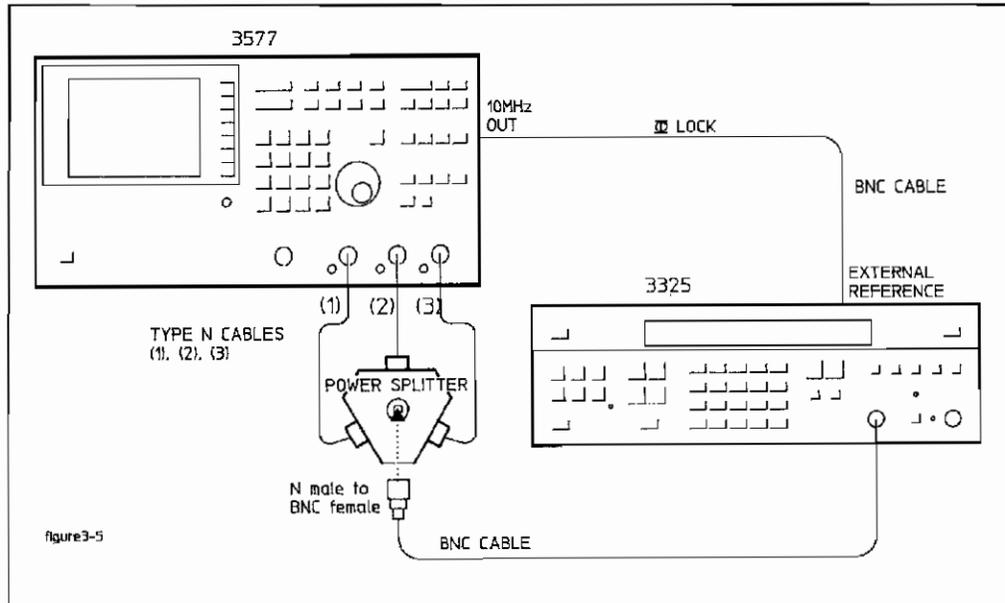

Figure 3-5 Dynamic Linearity (Magnitude vs. Phase) Test Set-Up
- x. Set up the equipment as in Figure 3-5. Make sure the HP 3577A 10 MHz OUT is connected to the synthesizer external reference input. The EXT REF LED on the front panel of the synthesizer should be on.